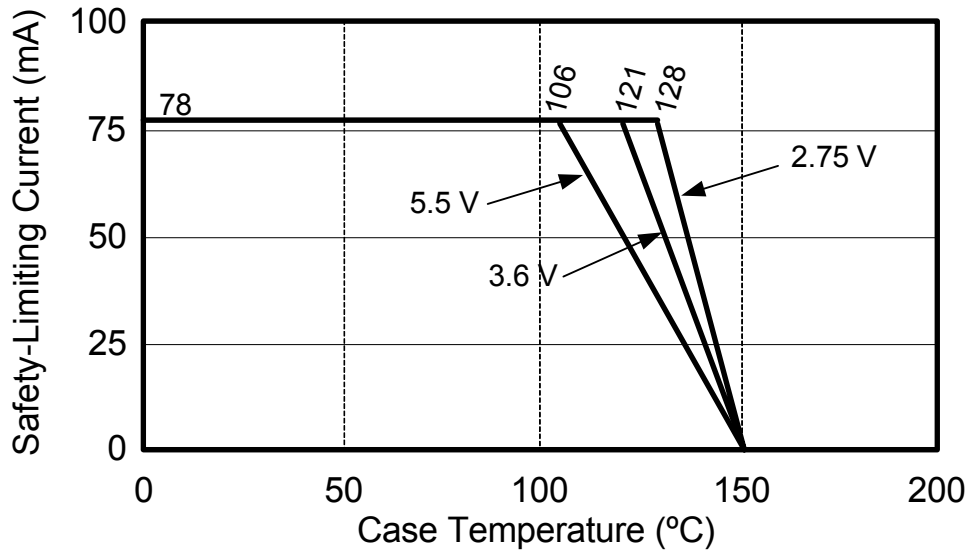

Figure 2. Thermal Derating Curve, Dependence of Safety Limiting Values with Case Temperature per DIN EN 60747-5-2
***Note:** Maximum value allowed in the event of a failure; also see the thermal derating curve in Figure 2.